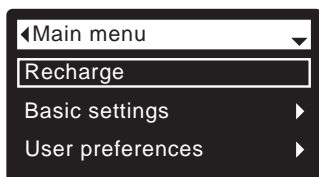
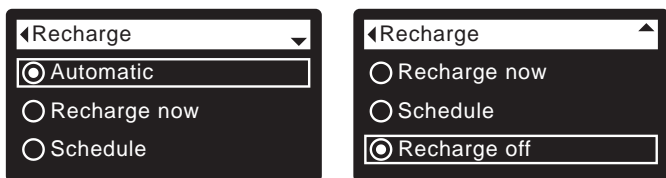
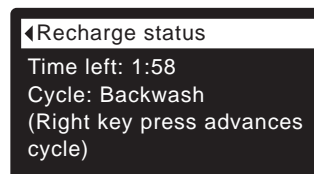

FIG. 44
FIG. 45
FIG. 46
2. Make sure **Recharge** is highlighted (See Figure 44).
3. Press the SELECT (O) button to display the Recharge menu (See Figure 45).
4. If the desired option already has a dot next to it (See Figure 45), go to Step 5. Otherwise, press the DOWN (▼) or UP (▲) buttons to scroll to the desired option, then press SELECT (O) to choose it.
- **Recharge now** begins a recharge immediately after the SELECT (O) button is pushed again in Step 5.
5. Press the SELECT (O) button. If **Recharge now** is selected, the display immediately goes to the Recharge status screen (See Figure 46). If **Automatic**, **Schedule**, or **Recharge off** are selected, the display goes back to the Main menu (Figure 44).